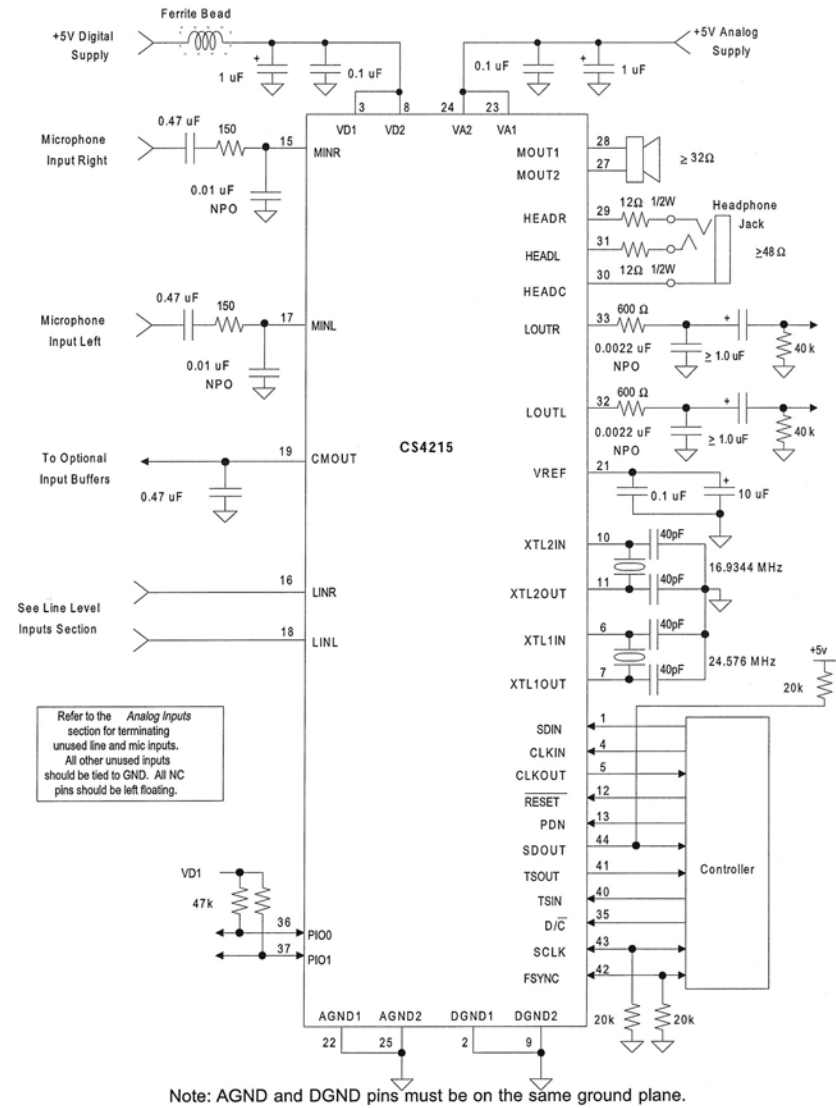

Figure 1. Recommended Connection Diagram
Figure 1, the recommended connection diagram, shows examples of the external analog circuitry recommended around the CS4215. An internal multiplexer selects between line level inputs and microphone level inputs.
LOUTR and LOU TL output an analog signal, centered around the CMOUT voltage. The minimum recommended load impedance is 8 kΩ. Figure 1 shows the recommended 1.0 μF DC blocking capacitor with a 40 kΩ resistor to ground. When driving impedances greater than 10 kΩ, this provides a high pass corner of 20 Hz. These outputs may be muted.
Two external crystals may be attached to the XTL1IN, XTL1OUT, XTL2IN and XTL2OUT pins. Use of an external crystal requires additional 40 pF loading capacitors to digital ground (see Figure 1). XTAL1 oscillator is intended for use at 24.576 MHz and XTAL2 oscillator is intended for use at 16.9344 MHz, although other frequencies may be used. The gain of the internal inverter is slightly higher for XTAL1, ensuring proper operation at >24 MHz frequencies. The crystals should be parallel resonant, fundamental mode and designed for 20 pF loading (equivalent to a 40 pF capacitor on each leg). If XTAL1 or XTAL2 is not selected as the master clock, that particular crystal oscillator is powered down to minimize interference. If a crystal is not needed, the XTL-IN pin should be grounded. An example crystal supplier is CAL Crystal, telephone number (714) 991-1580.